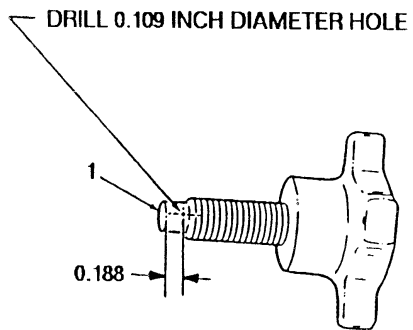

FIGURE 4-1
1. Locate, mark, and drill a 0.109-inch diameter hole in NSN 5355-00-161-0643 hand knob (1). (see figure 4-1)